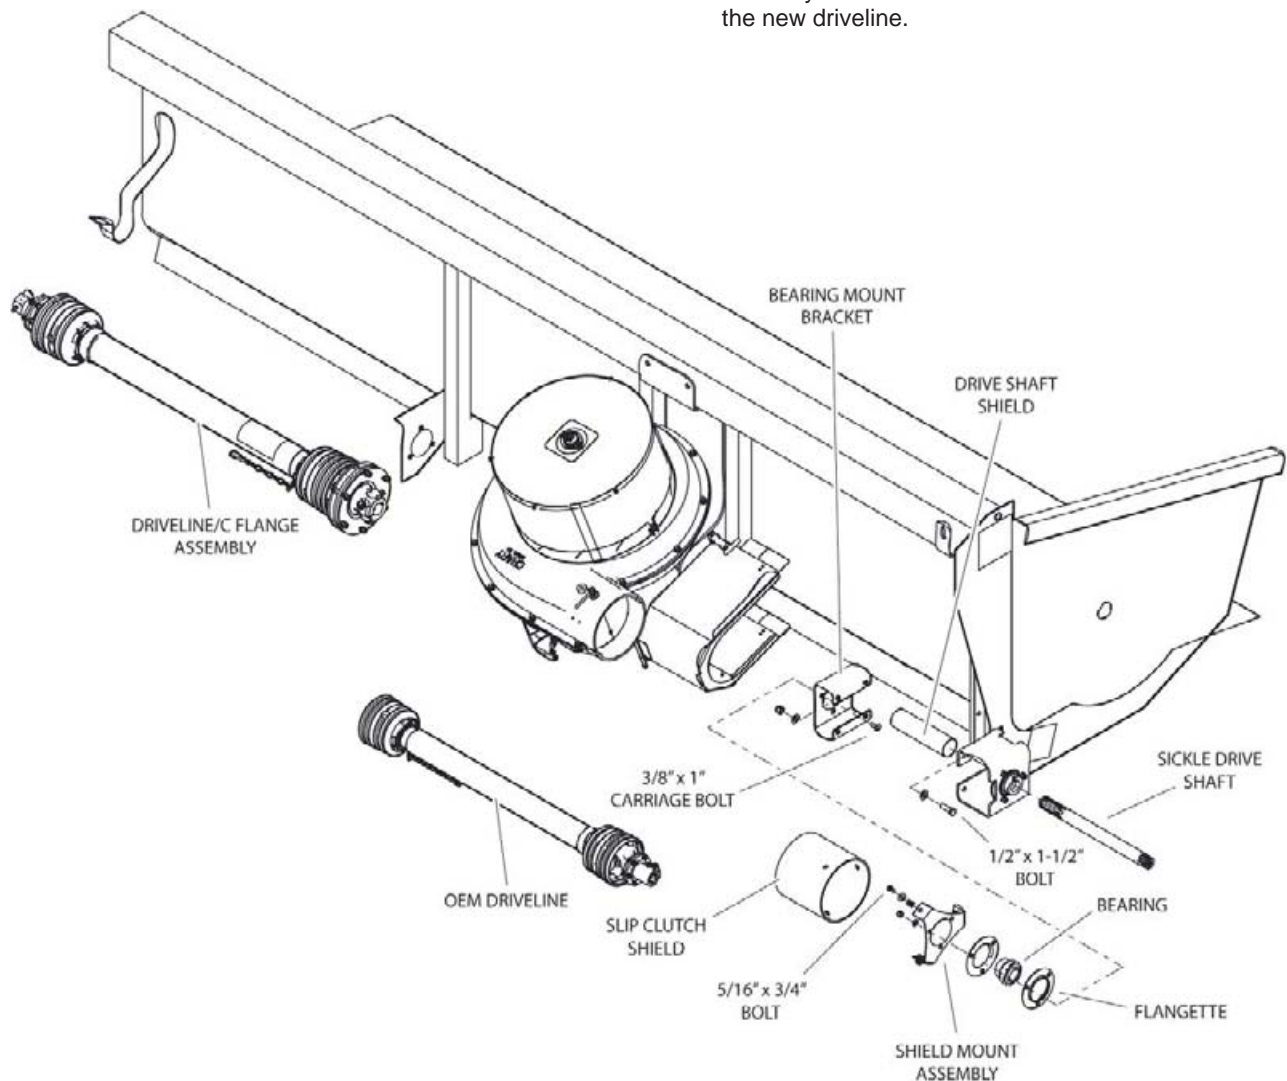

Figure 17, Right hand drive kit for use with gearbox stub shaft
1. Install the provided bearing mount bracket, bearing, flangettes and shield mount assembly to the inside RH edge of the header. These are installed with three 3/8" x 1" carriage bolts, washers and nylock nuts (Figure 17).